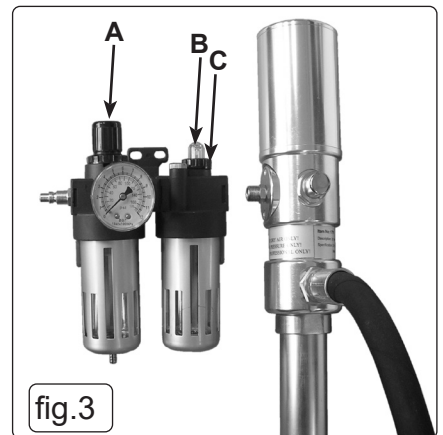

fig.3
### 4.2. PUMP AND AIR REGULATOR/LUBRICATOR ASSEMBLY (FIG.3)
- 4.2.1. Apply a small amount of liquid thread sealant onto the threads of the air inlet of the pump and attach the air regulator/lubricator (fig.3).